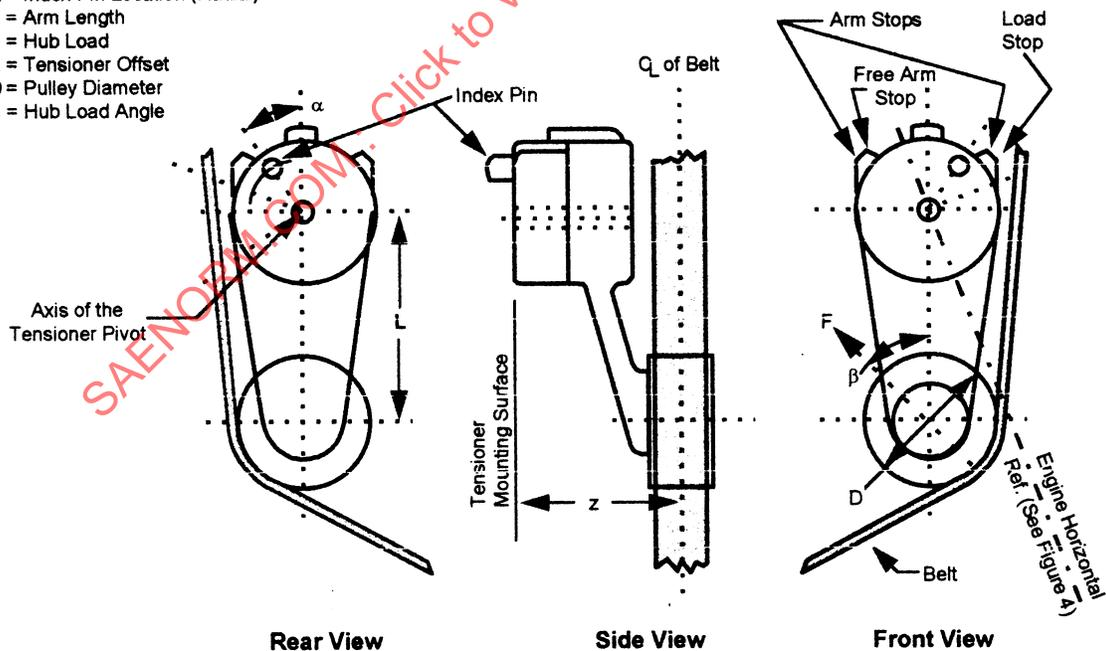

FIGURE 7—TENSIONER CHARACTERISTICS
4.6 Tensioner Offset—The distance from tensioner mounting surface to theoretical centerline of belt. (See Figure 7.)